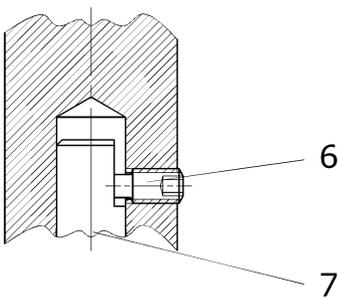

Fig. 3
6. Make sure that the clamping surface of the center point is aligned to the screw (see Fig. 3).
7. Tighten screw (6) with a suitable torque wrench to the required torque of 2 Nm for the variant with raker knives (2A) and 4 Nm for the variant with reversible knives (2B).